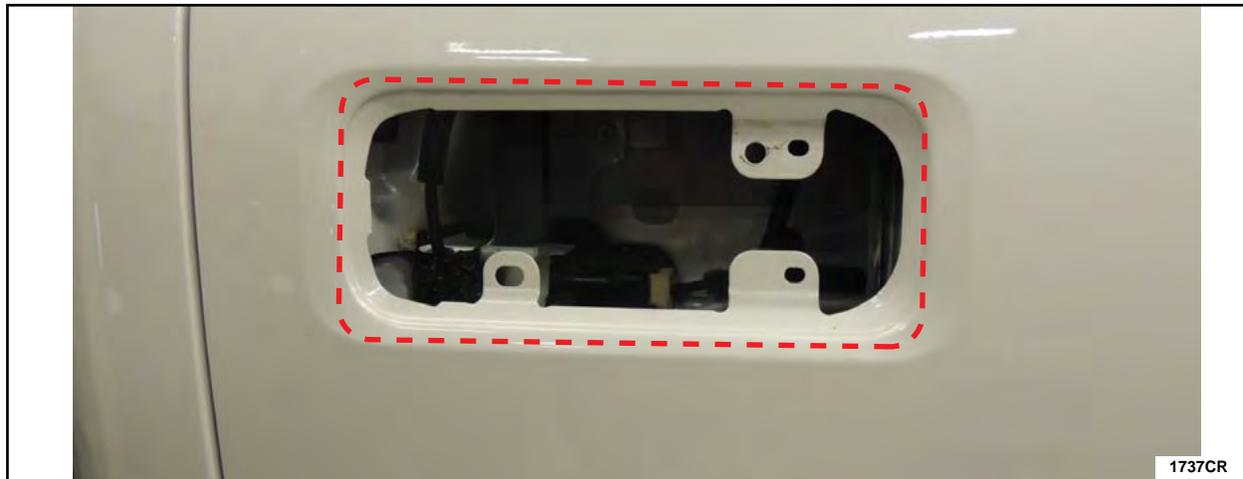

FIGURE 92
20. Using a clean shop cloth and isopropyl alcohol, clean inside the dotted lines on the mating surface area of the exterior door handle opening. See Figure 92.